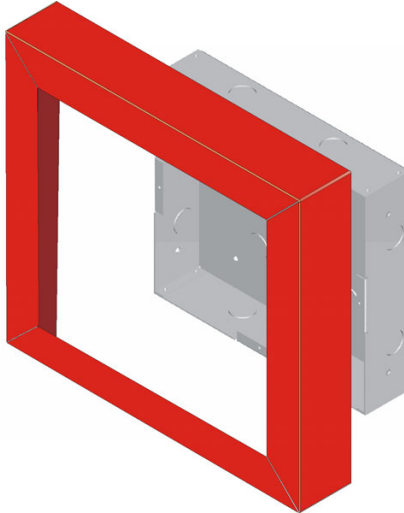

Figure 4.16 Installing Trim Ring
- Place the trim ring over the backbox as shown in Figure 4.16.